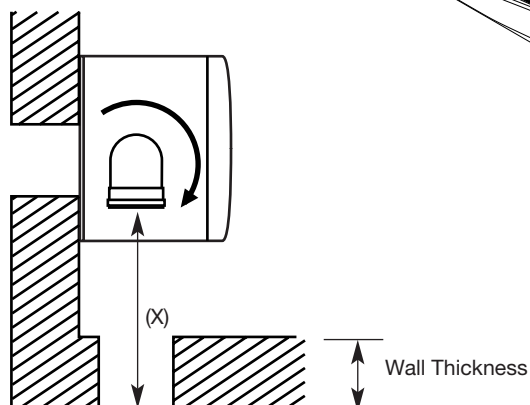

Fig. 22
3. Measure the distance from the outside wall face to the elbow. This dimension will be known as 'X' (Fig. 22).